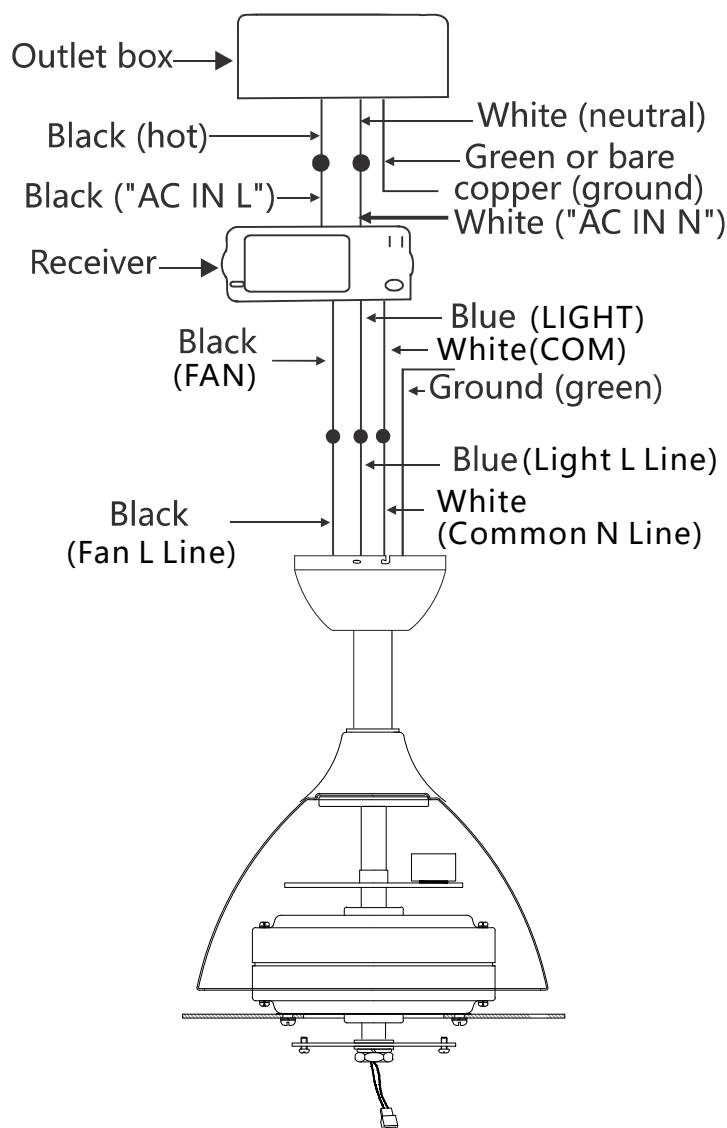

Fig.8
Step 2. Motor to Receiver Electrical Connections (Fig. 8)
Step 3. Receiver to Supply Wires Electrical Connections: (Fig. 8)